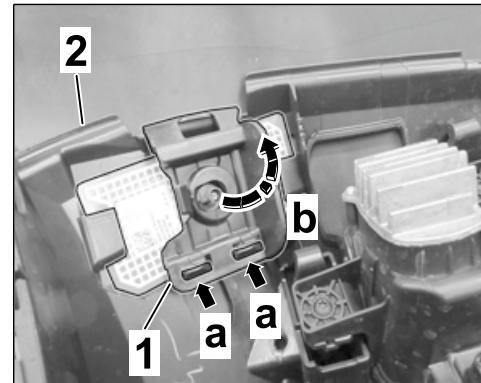

Figure 25
5.7.3 Open the locks  $\Rightarrow$  Figure 25-1- ( $\Rightarrow$  Figure 25 -arrow a-).
Swivel cover on holder up  $\Rightarrow$  Figure 25 -arrow b-.
Remove mobile communication antenna (film antenna)  $\Rightarrow$  Figure 25 -2- from holder (left/right air guide).